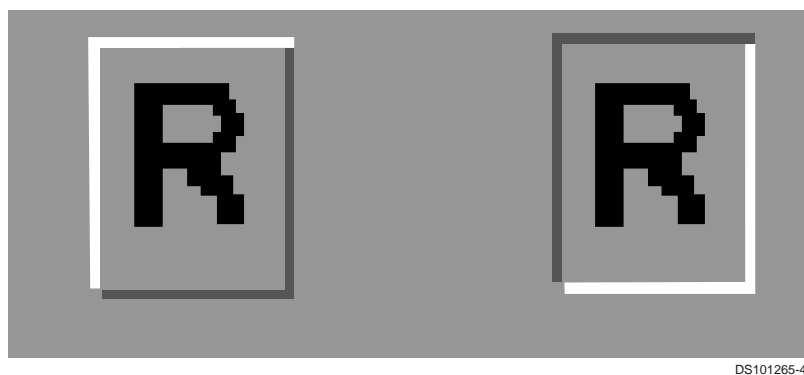

FIGURE 36. Button Boxes
1. **Button Boxes**—The OSD generator examines the character string being displayed and if the 'button box' attributes have been set in the Enhanced feature byte, then a box creator selectively substitutes the character pixels in either or both the top and right most pixel line or column with a button box pixel. The shade of the button box pixel depends upon whether a 'depressed' or 'raised' box is required, and can be programmed by I2C. The raised pixel color ('highlight') is defined by the value in the color palette register, EF1 (normally white). The depressed pixel ('lowlight') color by the value in the color palette register EF2 (normally gray). See *Figure 36*.